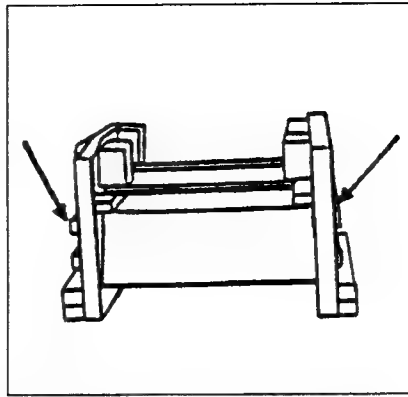

Figure 2-10. Remove Sound Shroud
- e. Grasp the yellow foam end caps and lift to remove the sound shroud and wire form assembly from the box. Place it on a flat surface to disassemble (see Figure 2-10).